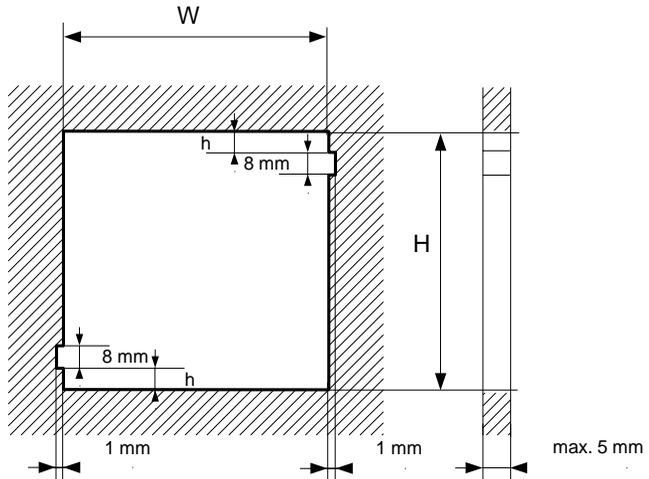

Fig. 4.2. Mounting hole dimensions
- In order to install the unit, a mounting hole must be prepared in accordance with **Fig. 4.2**. The thickness of the material the panel is made of must not exceed 5mm. While preparing the mounting hole take the grooves for catches located on both sides of the housing into consideration (**Fig. 4.2**). Place the unit in the mounting hole inserting it from the front side of the panel, and then fix it using the brackets (**Fig. 4.4**). The minimum distances between the centre points of multiple units - due to the thermal and mechanical conditions of operation - are shown in **Fig. 4.3**.